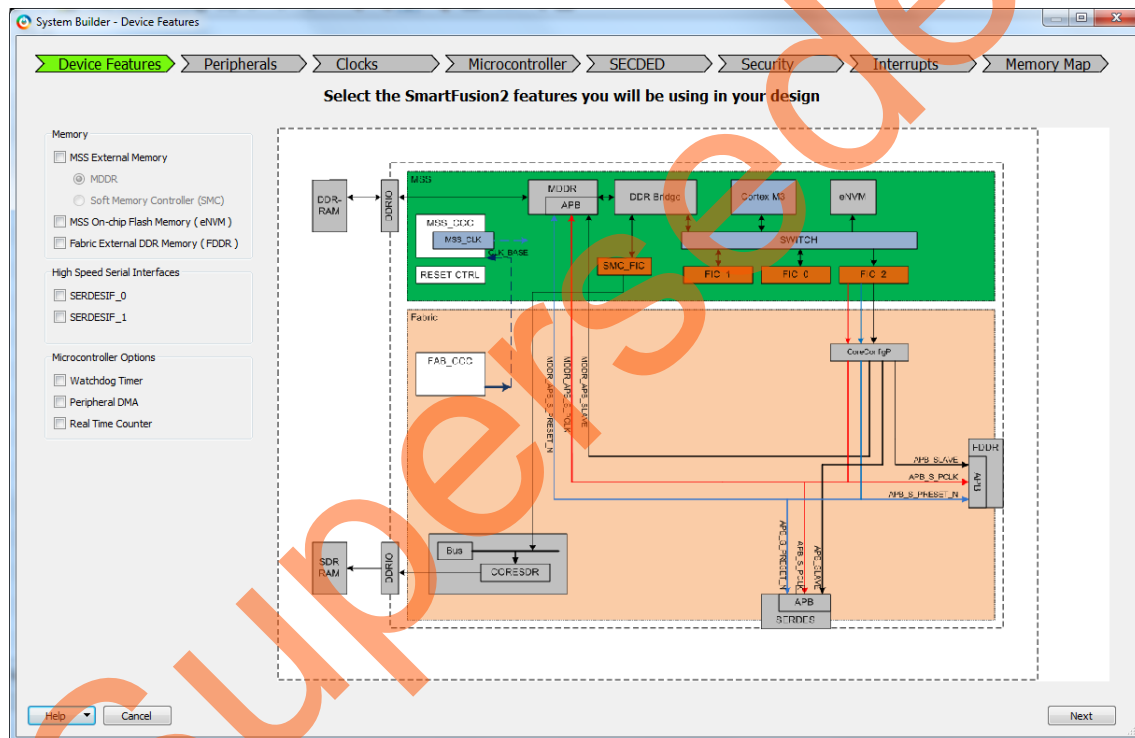

Figure 7 • SmartFusion2 System Builder Device Features
10. Enter **SmartFusion2_FIC_Tutorial** as the name of the system and click **OK**. The **System Builder** window is displayed, as shown in Figure 7.